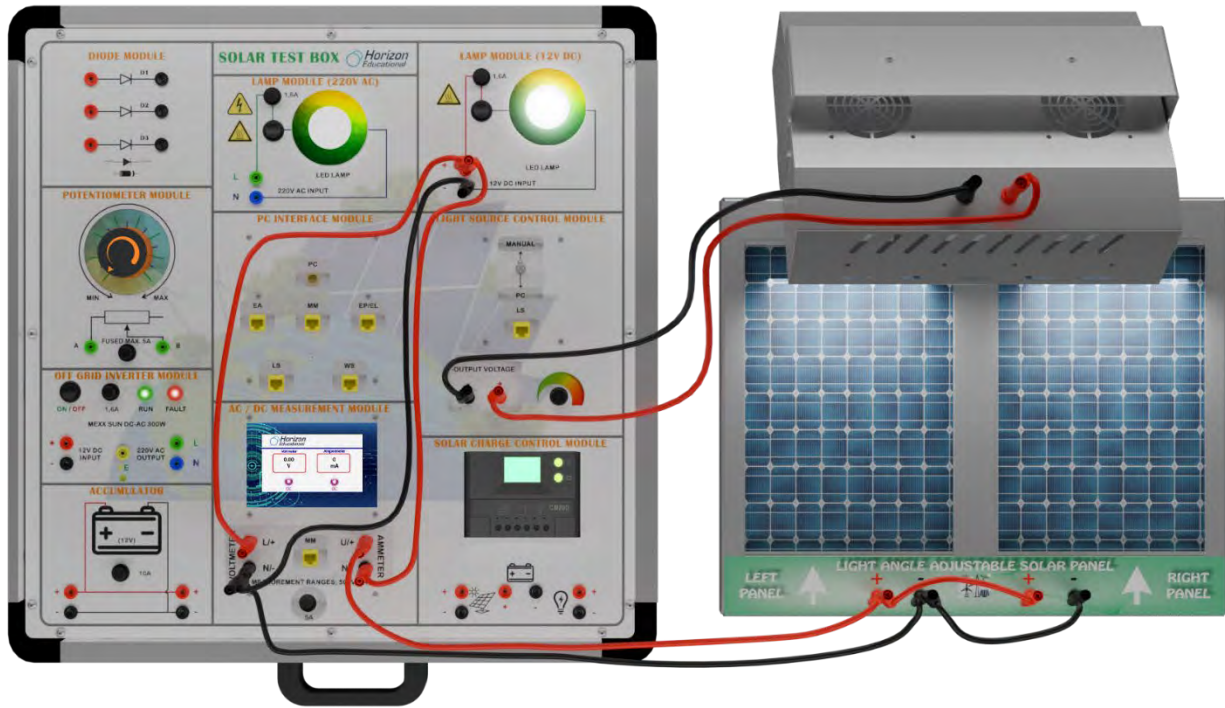

Figure-35. Installation Image of Direct Load Connection to Photovoltaic Panels
1. Set up the connection as specified in Figure-35. Ensure a constant level of light in the laboratory by creating an average scenario. Any alterations to the positions of the lamps or curtains will have an impact on the experimental outcomes.